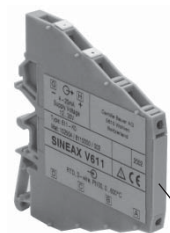

Fig. 1
2. Scope of supply (Figs. 1 and 2)